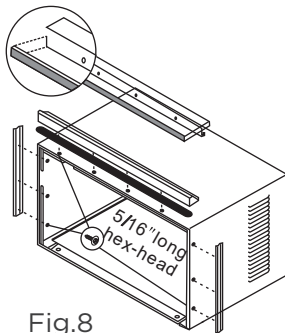

Fig.8
- Install top angle and side retainers to cabinet as shown in Fig.8(10 screws).